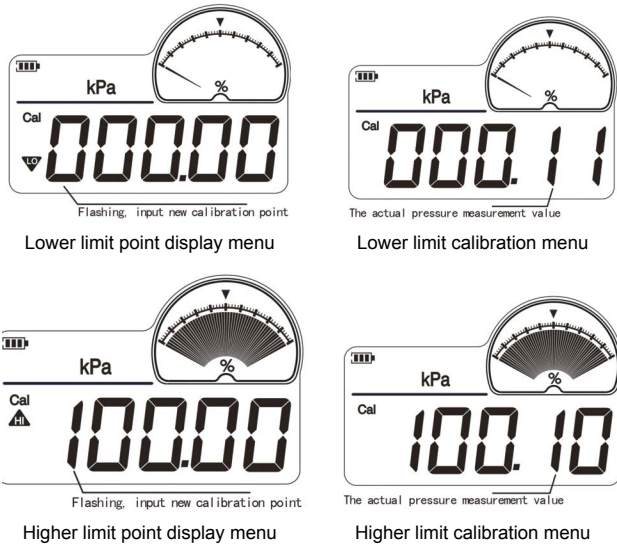

Figure 5: Limits
1. Select **1.CAL** and press **zero** button to display the calibration value of lower limit, as Figure 5. If you need to modify this calibration value, please input the desired value. Otherwise, please press **zero** button to confirm.